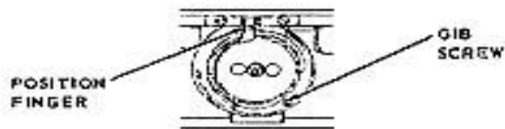
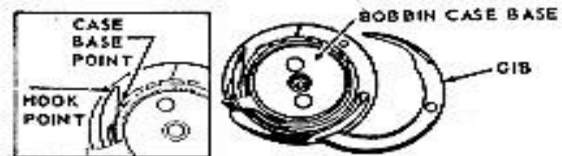

Fig. 34. Removing Gib Screw
Fig. 35. Removal of Bobbin Case Base
2. Remove gib screw, Fig. 34, and displace gib as shown in fig. 35.
3. Turn bobbin case base so small point on bobbin case base is beneath point of sewing hook as shown in Fig. 35.
1. Replace bobbin case base in position as shown in fig. 35. Rotate it slightly until it seats.